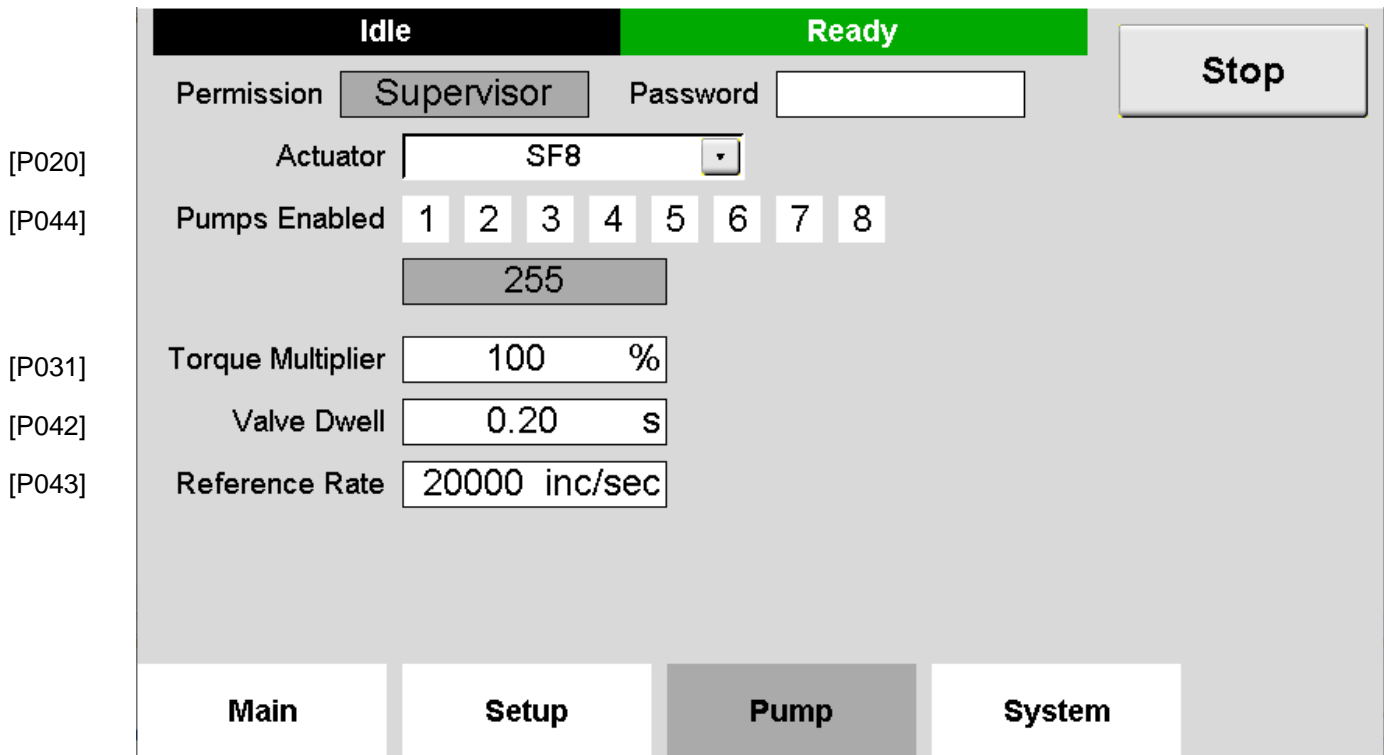

Figure 3.7 Pump Screen
3.2.5.6 Pump Screen (Figure 3.7)